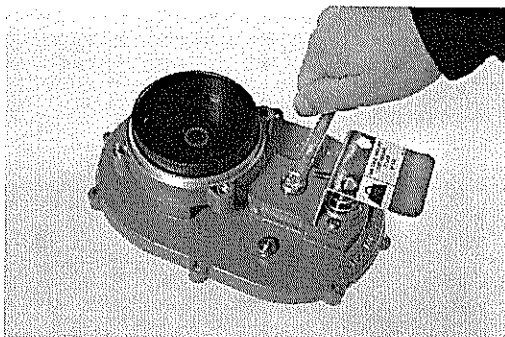

FIGURE 22
4. Using Phillips screwdriver, remove screw, lock washer and flat washer from outside of transmission cover and set aside. FIGURE 22
5. Insert a 1/4-20 UNC cap screw with a minimum 1 inch (25.4 mm) into location where screw was removed. Using wrench, turn capscrew in clockwise direction to apply thrust against pinion bearing journal until it clears pinion gear support bearing. FIGURE 22